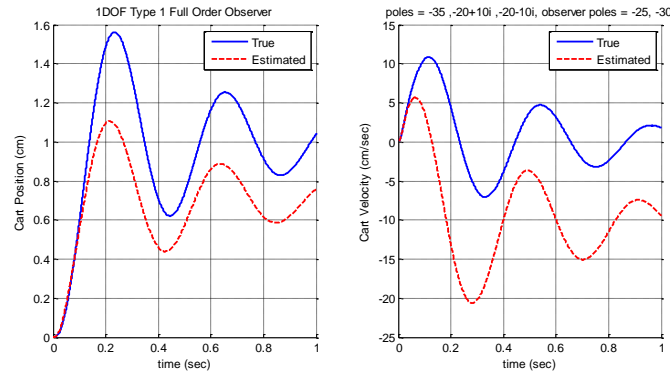

Figure 18: Full order observer with integrator with a bad model
- Now we will try and observe what happens when there is a difference between our model and the real system. Modify the observer block in the model file, so the A matrix is called AA. Just before you simulate the model file, enter the command `AA = A*1.5`. You should get results like those in Figure 18.